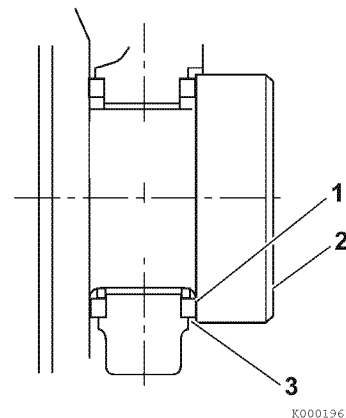

Figure 6-58
- **Method B:** Use a feeler gauge to measure the clearance (**Figure 6-58, (3)**) between the thrust bearing (**Figure 6-58, (1)**) and crankshaft (**Figure 6-58, (2)**). Record the measurement. See *Thrust Bearing* on page 6-7 for the service limit.